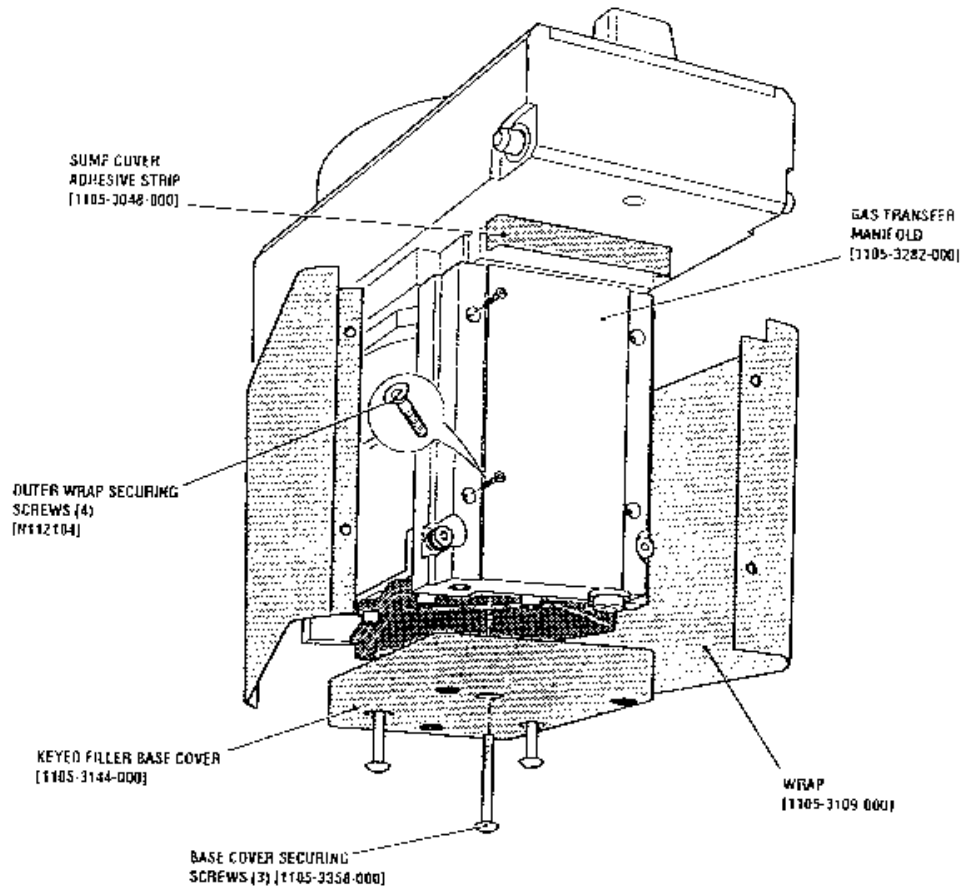

Fig. 8.3 Fitting The Keyed Filler Wrap And Base Cover
8.2 Keyed Filler (Fig. 8.3 And 8.4)